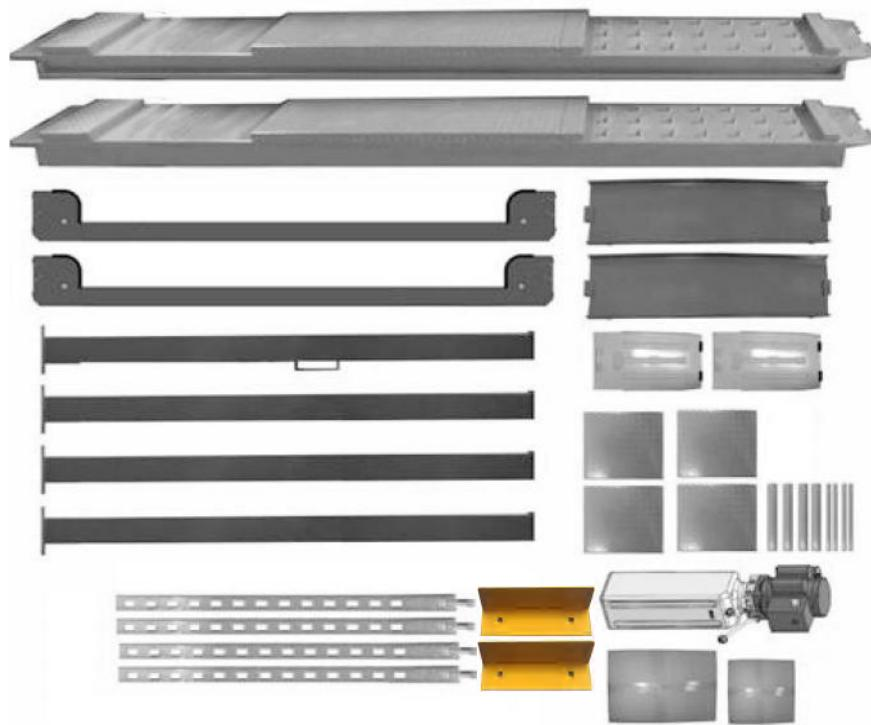

Fig.10
6. Move aside all the parts to the installation position and check the parts according to the parts list (See Fig. 9, Fig.10).